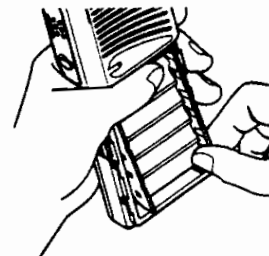

Figure 8.
4. Holding the radio as shown in Figure 8, press thumb on top of alkaline tray to pop bottom edge out of radio. Then grasp bottom edge and pull the tray out of radio. Proceed to Step 5 on page 21.